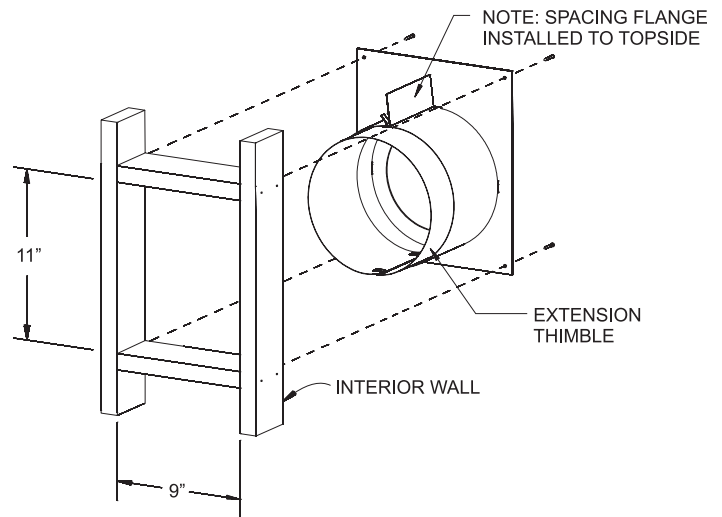

Figure 58
2. Cut hole in wall for wall thimble/firestop assembly (**Figure 58**) into your combustible wall. Note: On brick or block exterior wall a 7" (178mm) diameter hole needs to be cut.
Measure the total wall thickness to determine whether or not the extension thimble is to be used. If the combustible wall depth is over 5 3/8" (137mm), then the extension thimble should be used. **See Figure 58.**
3. Install the wall thimble assembly through the framed opening so the firestop plate is on the interior wall (**Figure 58**). Telescope section should extend all the way through the exterior wall. Attach with four 10 x 1" screws.